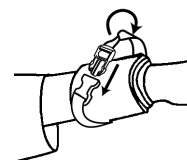

Fig. 3
5. Release the quick-release buckle, twist the buckle over and reinsert the male end of the quick-release buckle into the female end of the quick-release buckle. This will prevent the black propylene strapping from sliding through the quick-release buckle if the patient is pulling against it. Ensure connection is secure by listening for a "snapping" sound when connecting the male and female ends. (Figure 3)